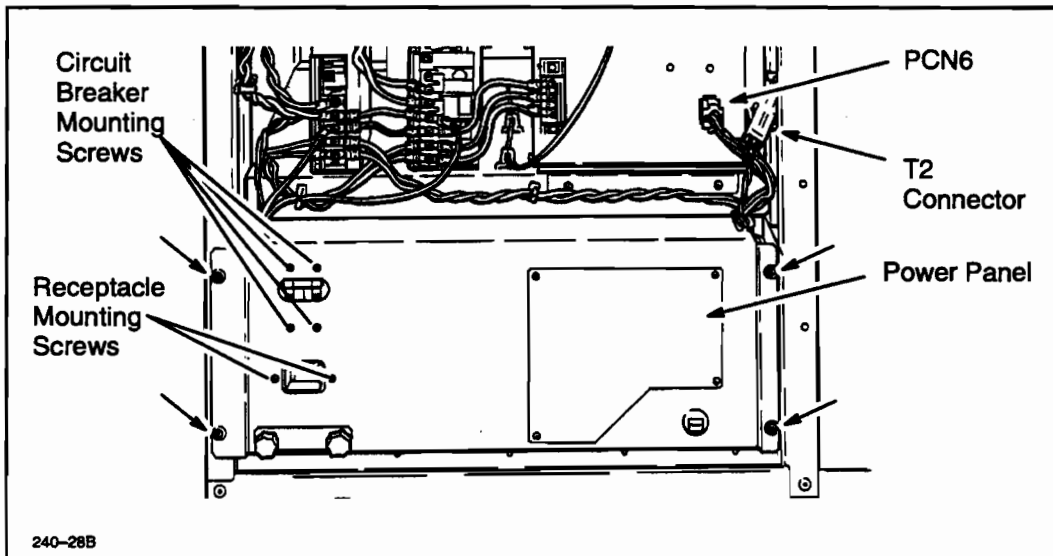

Figure 6-25. Pump Transformer (T2) Connector
6. Disconnect the pump transformer (T2) connector. See Figure 6-25.
11. Using a #2 Phillips screwdriver, remove the two left-side power panel mounting screws. See Figure 6-25.